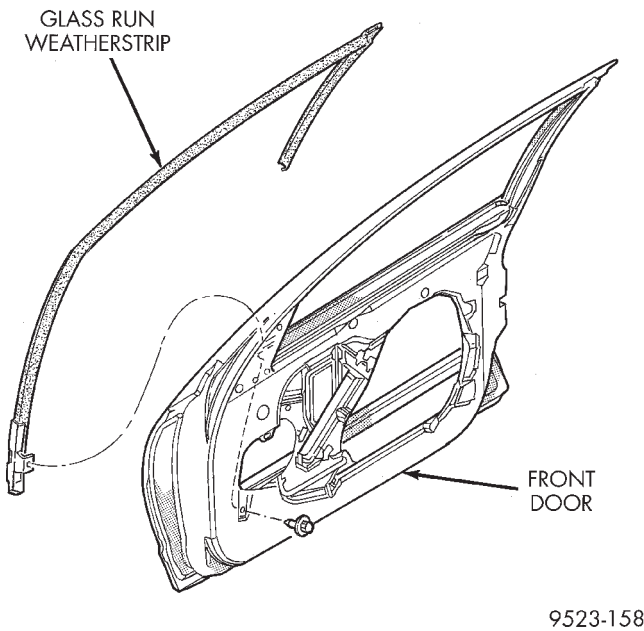

Fig. 18 Door Glass Run Weatherstrip
- (1) Remove door trim panel.
- (2) Remove door glass.
- (3) Remove bolt holding bottom of front lower run channel to inner door panel.
- (4) Pull glass run weatherstrip from door glass opening frame.
- (5) Remove lower run channel through opening at top of door (Fig. 18).